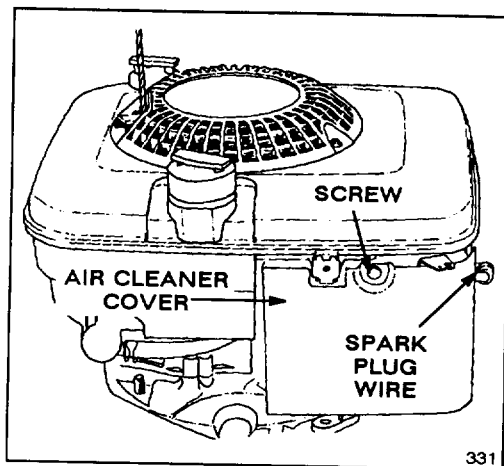

Figure 12
1. Stop engine and pull wire off spark plug (Fig. 12).
2. Remove screw securing air cleaner cover to engine (Fig. 12). Tilt cover down and clean thoroughly.
1. Stop engine and wait for engine to cool. Pull wire off spark plug (Fig. 12).